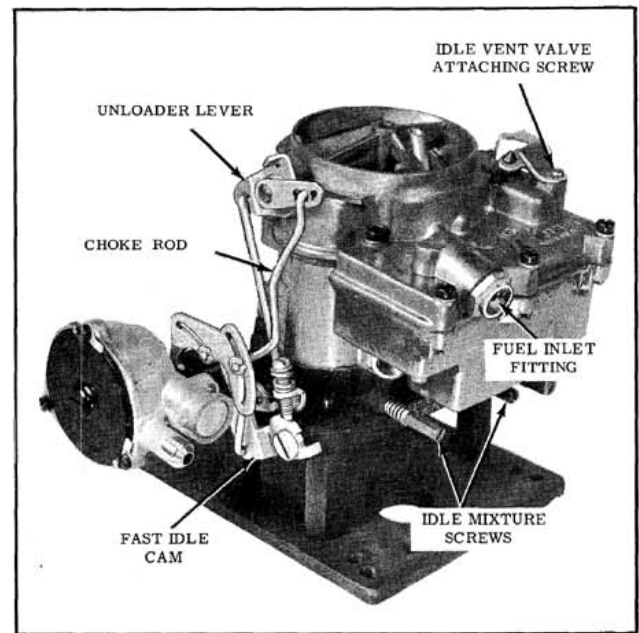

Fig. 4-27 2GC Carburetor
1. Mount carburetor on Holding Fixture BT-30-14 or J-5923-B. (Fig. 4-27)